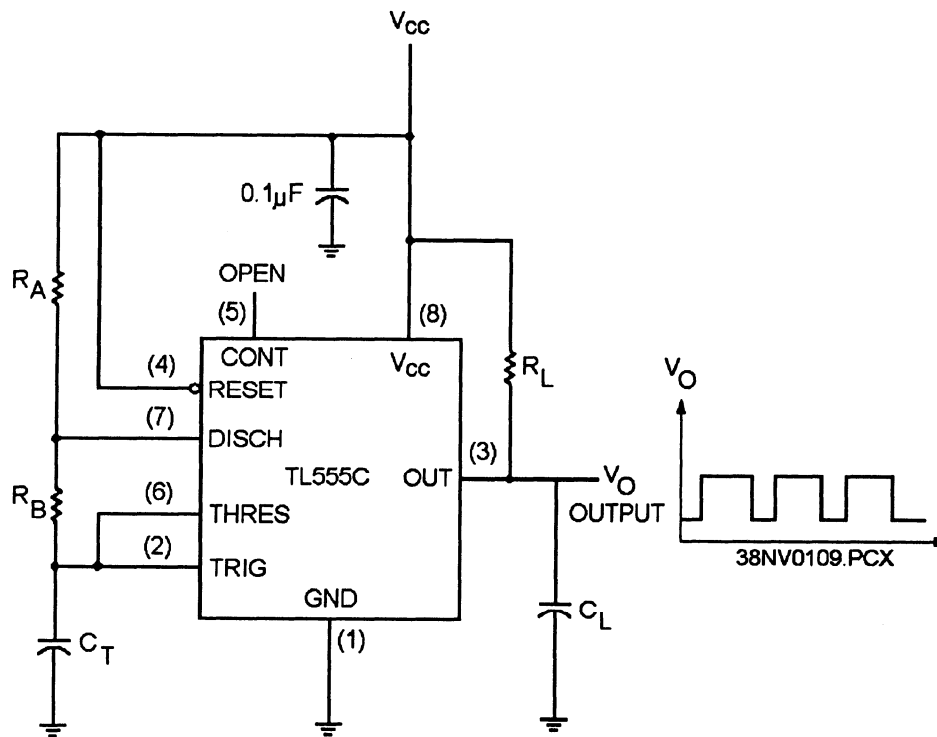

Figure 4-34.—Example of a timer circuit for astable operation.
**TIMERS.**— Timers use a basic comparator circuit to drive a flip-flop. They can be used to produce a circuit known as an astable multivibrator, which is used to generate digital pulses of known widths and to provide known time delays in digital circuits. These timer circuits are used in the computer’s timing and control section. See figure 4-34.